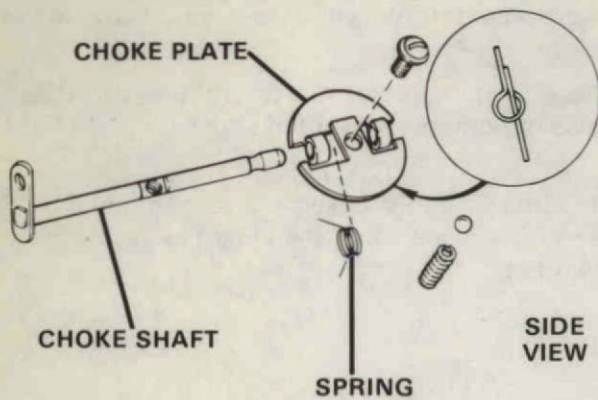

Figure 28. Assembling Choke to Carburetor.
- F. Place bottom choke plate half on choke shaft, end of spring under, secure with screw. Figure 28.